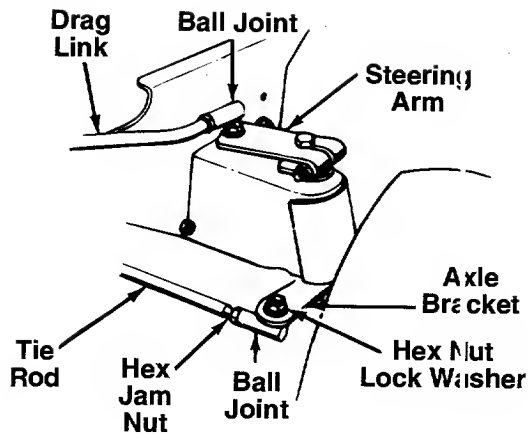

FIGURE 25.
1. Remove the hex nut and lock washer, and drop the end of the tie rod from the axle bracket. See figure 25.
To take off the drag link, remove the nuts and lock washers holding the ball joint to the steering gear and right front axle bracket. See figure 25.